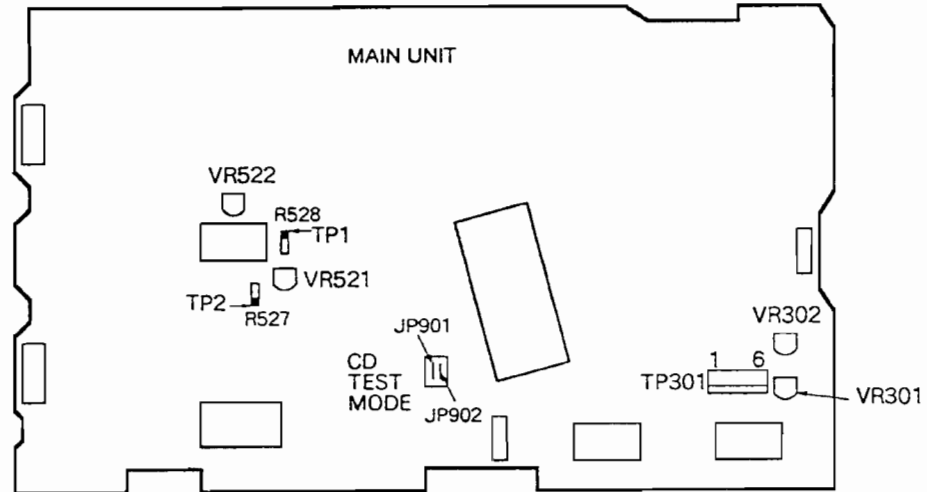

Figure 1. Adjustment Locations
2. Press the TEST mode switch (JP901 and JP902). (See Figure 1.)